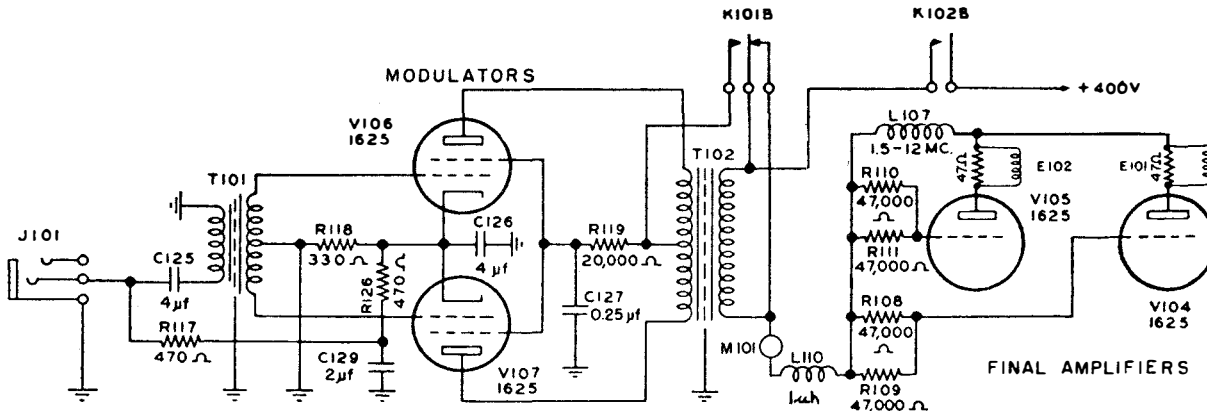

Figure 2-9 Transmitter Modulator Circuit
*d. MODULATION SYSTEM.* (See figure 2-9.)—The modulation system employs two type 1625 tubes V106 and V107 in a push-pull, class-B modulator. The output of a single-button carbon microphone MI-801 is coupled to the grids of the modulator tubes by the input transformer T101. Microphone current is obtained from the cathode circuit of the modulators. Modulator bias is obtained by the use of a cathode resistor R118. Screen voltage is obtained through dropping resistor R119.